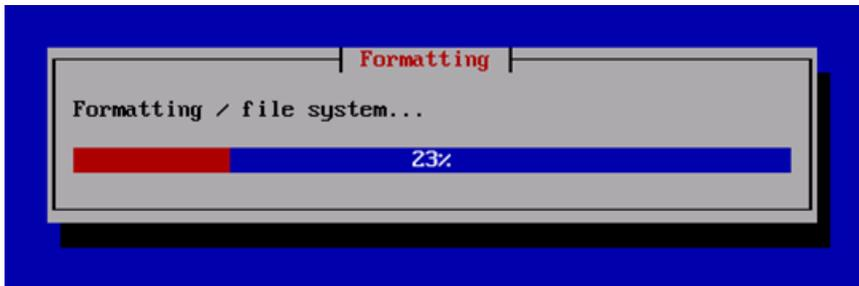

Figure 6: Example File System Creation Screen
- Once the screen shown in Figure 6, Example Package Installation Screen Appears, it may take several minutes before anything change. However, after a few minutes, you will see a screen similar to that below, showing the status of the package installation step. For each package, there will be a status bar at the top indicating how much of the package has been installed, with a cumulative status bar at the bottom indicating how many packages remain. In the middle, you will see text statistics indicating the total number of packages, the number of packages installed, the number remaining, and current and projected time estimates: